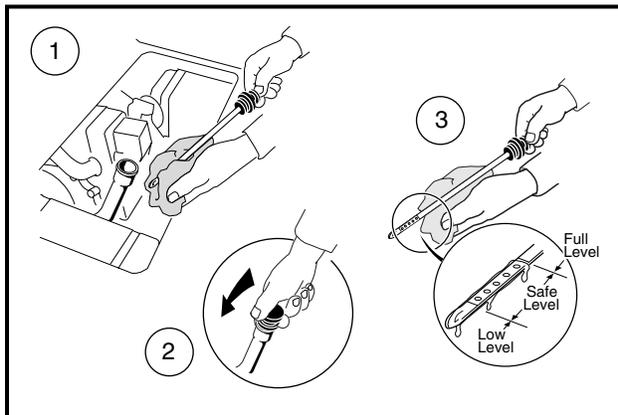

Figure 26 Engine Oil Level Check
1. Remove the oil level dipstick from the oil filler tube and wipe oil from dipstick (**Figure 26**). See following CAUTION.